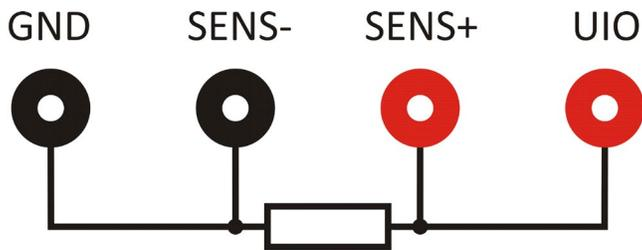

Figure 5. MAXREFDES183# ports.
7. The four banana plugs form a 4-wire port (**Figure 5**), which allows the system to source or measure voltage or current between the outer pins (GND) and (UIO). The two inner pins, SNS+ and SNS-, are inputs that allow true 4-wire measurements.